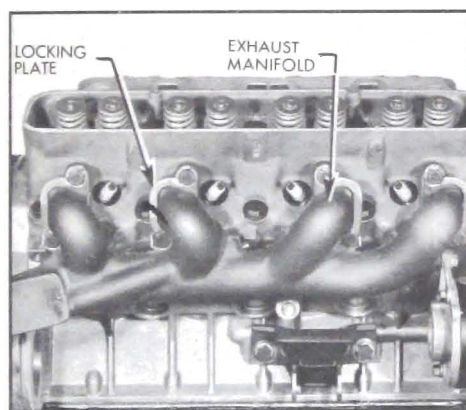

Figure 2-29—Exhaust Manifold Installation (V-8 shown)
3. Assemble exhaust manifold to cylinder head with bolts and locking plates as shown in Figure 2-29. Torque bolts to 10-15 ft. lbs.